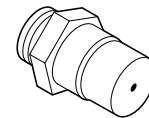

Figure 29
Step 8. Unscrew the orifice from the manifold and replace it with the one provided with the kit. See the following table for orifice sizes for natural and propane models. **Figure 29** illustrates the orifice.